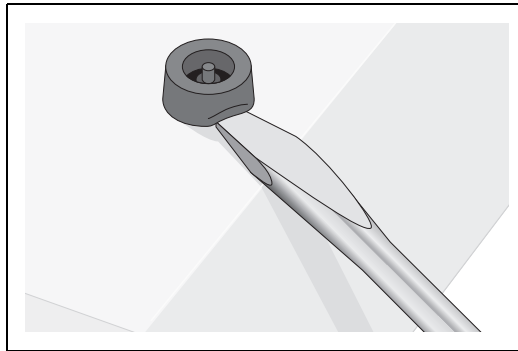

Figure 31. Removing the Feet
2. Using a flat-head screwdriver, remove the snap-on plastic feet from the bottom of the switch, as shown in Figure 31.